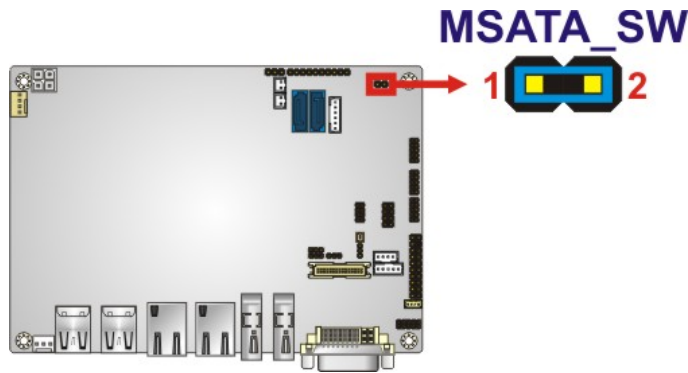

Figure 4-9: PCIe Mini/mSATA Mode Selection Jumper Location
- Jumper Location:** See Figure 4-9